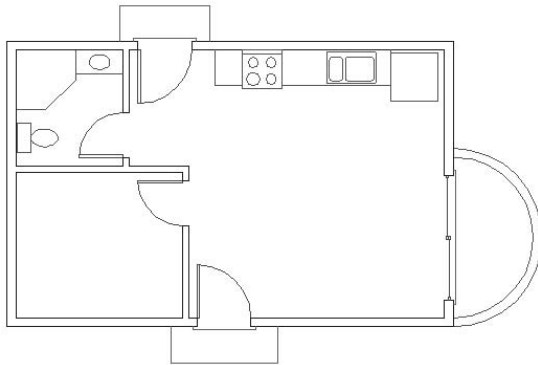

FIGURE 6.22: The floor plan with all layers visible and all objects on their correct layers
9. Click one of the unlit bulbs in the On column. All unlit bulbs become lit. Click OK. Back in your drawing, all objects are now visible and on their correct layers (see Figure 6.22).